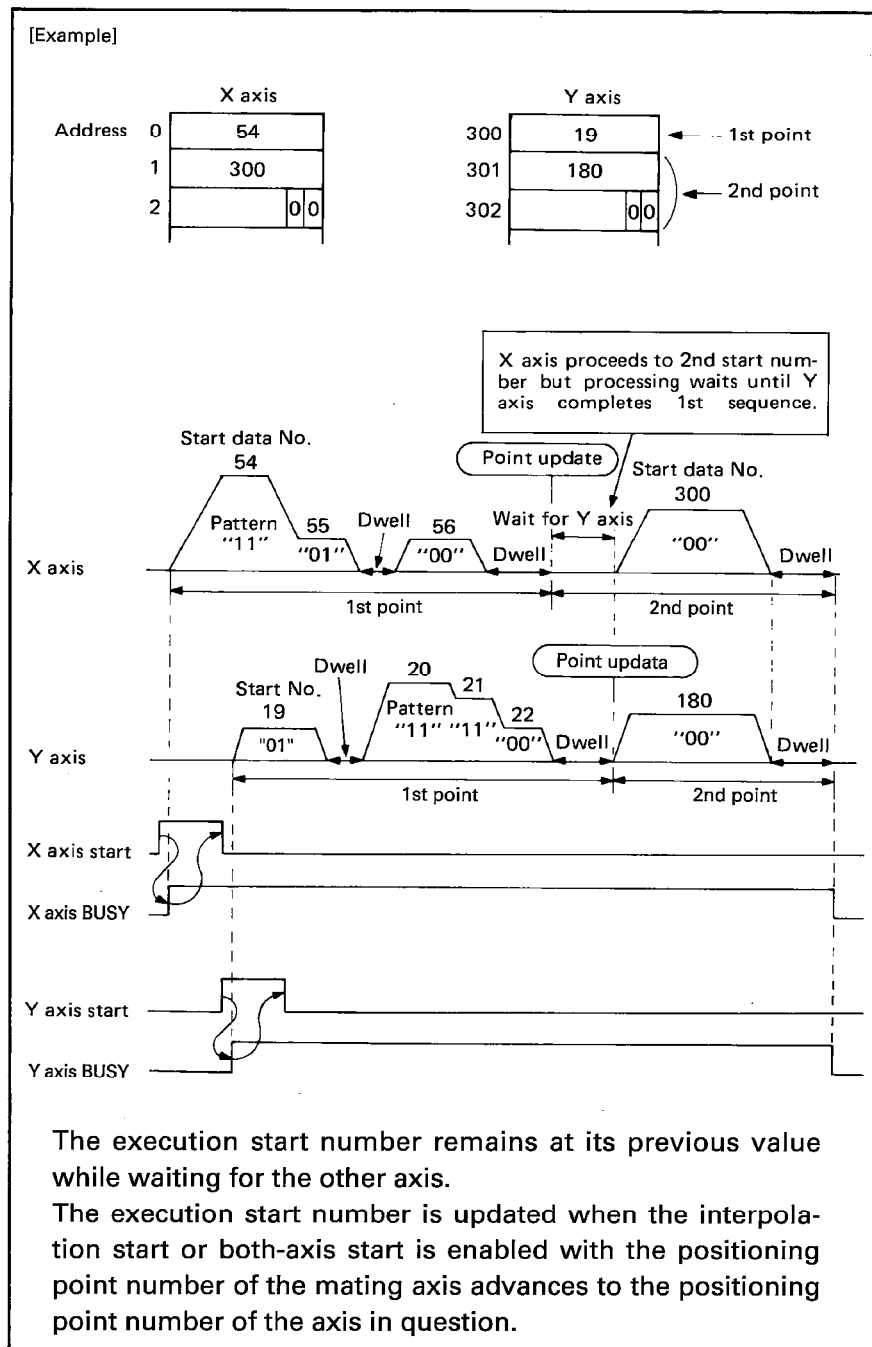

Fig. 2.35 Start Data Example 5
- 5) If the interpolation start (00) or both-axis start (11) is set for the start axis of either of the two axes, the processing differs depending on the contents of positioning processing of the mating axis if the mating axis is executing positioning.
- If the mating axis is executing positioning at a point number smaller than the positioning point of the axis in question, its positioning processing is suspended until positioning processing of the mating axis advances to the same point number or the mating axis BUSY state goes off. The state of the axis in question remains BUSY while its positioning processing is suspended (See Fig. 2.35.).